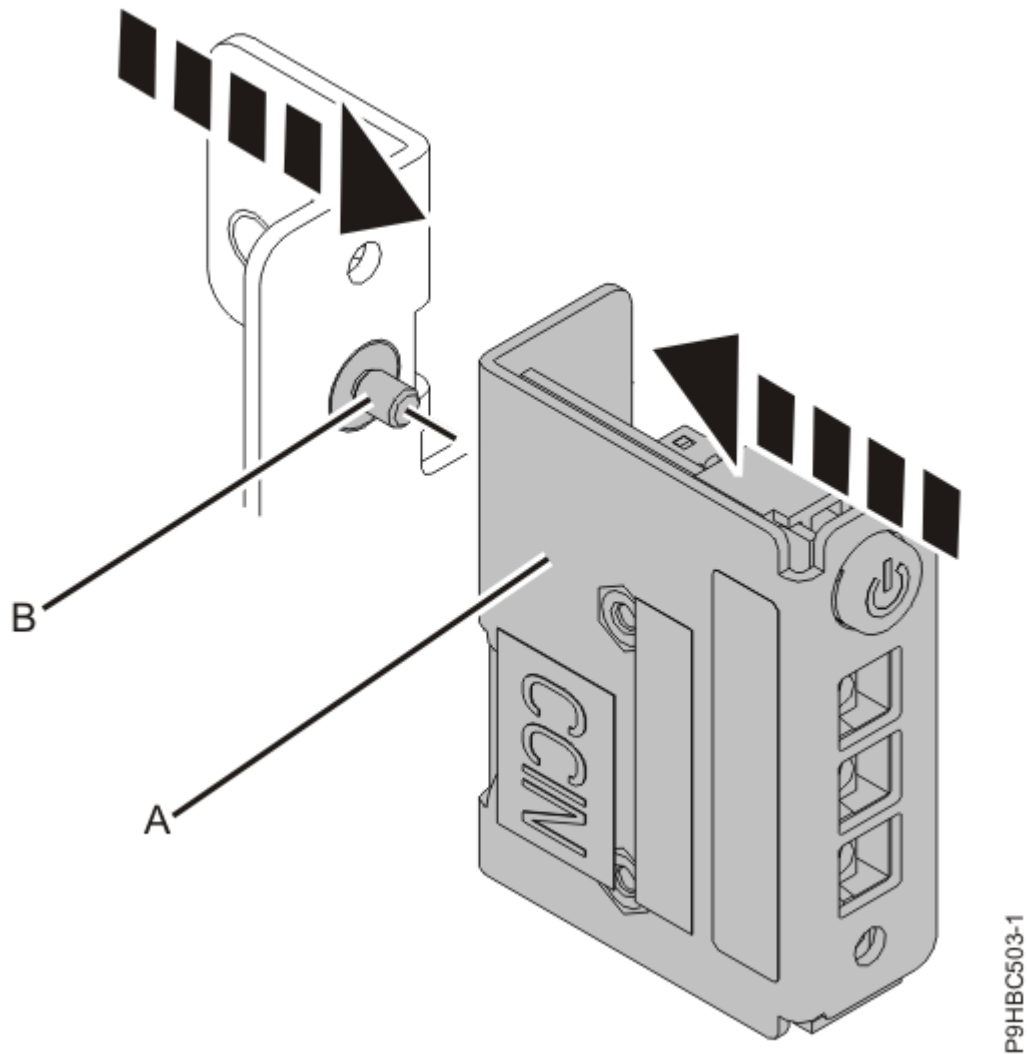

Figure 12. Replacing the control panel onto the bracket
3. Attach the control panel **(A)** to the bracket with screw **(B)** as shown in Figure 12 on page 14. Ensure that the control panel pins align with the bracket holes.